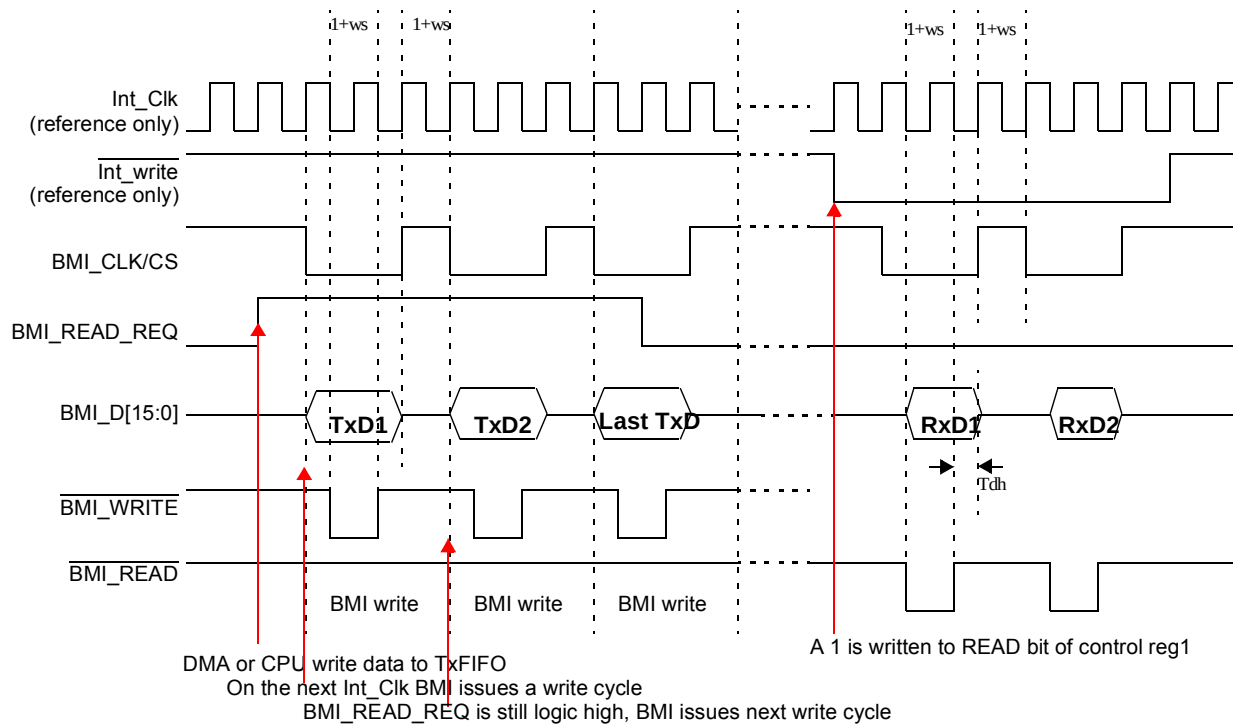

**Figure 11. Memory Interface Master Mode, BMI Read/Write to External Slave Device Timing without Wait Signal (MMD\_MODE\_SEL=0, MASTER\_MODE\_SEL=1)**
The  $\overline{\text{WAIT}}$  control bit (BMICTRL1[29]) is used in this mode. When this bit is cleared (default), the  $\overline{\text{BMI\_WAIT}}$  signal is ignored and the CS cycle is terminated by Wait State (WS) control bits. Figure 11 shows the BMI timing when the  $\overline{\text{WAIT}}$  bit is cleared.